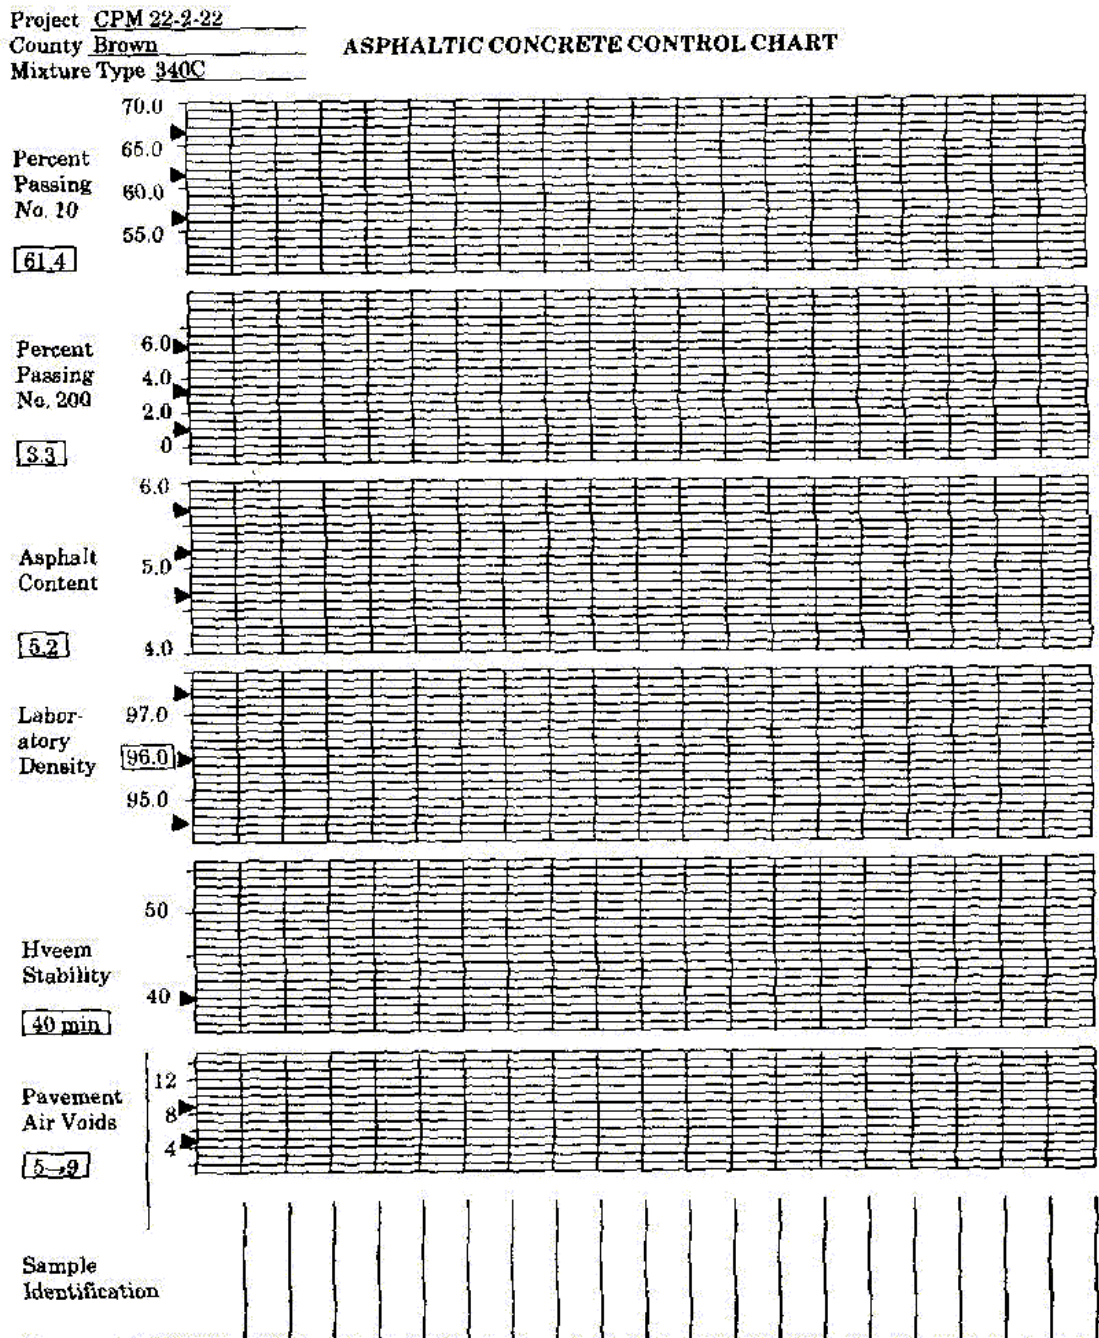
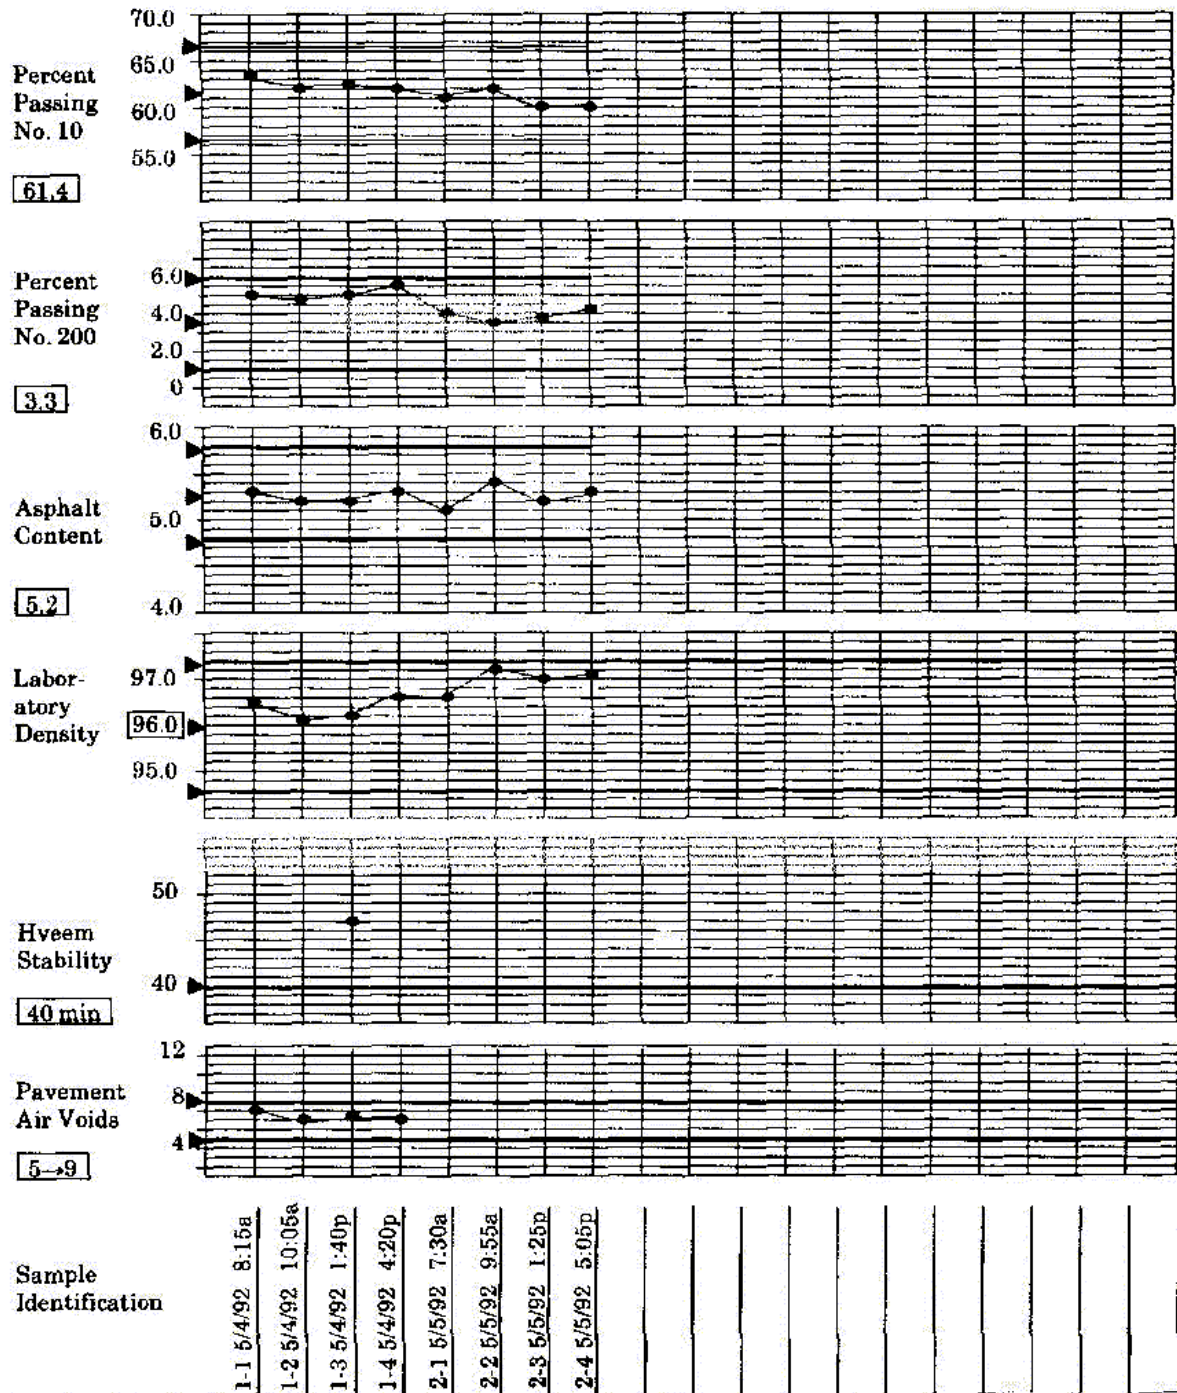

Figure 1—Asphaltic Concrete Control Chart (Example 1)
Figure 2—Asphaltic Concrete Control Chart (Example 2)
- 2.2 Place job-mix formula percentages, tolerance limits, and specification criteria in the left hand column (y-axis) as in Figure 1. Draw tolerance limits across each graph as in Figure 2.
- 2.5 Continue to plot test data daily in order by subplot or sample date and time. Connect the data points with heavy lines as shown in Figure 2.